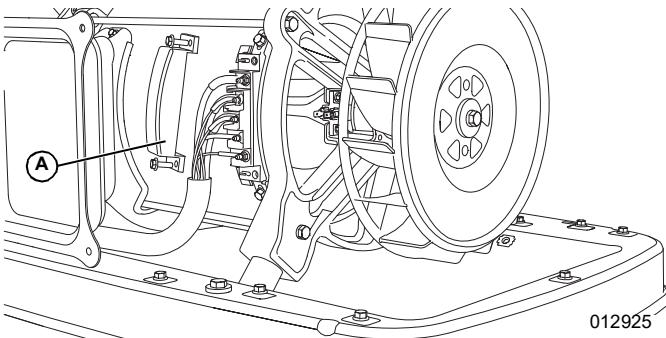

Figure 2-19. Stator Terminal Block (STB)
- See **Figure 2-19**. Remove the stator terminal block cover (A) to expose all wires/studs (33/22, 11, 44, 2, and 6).